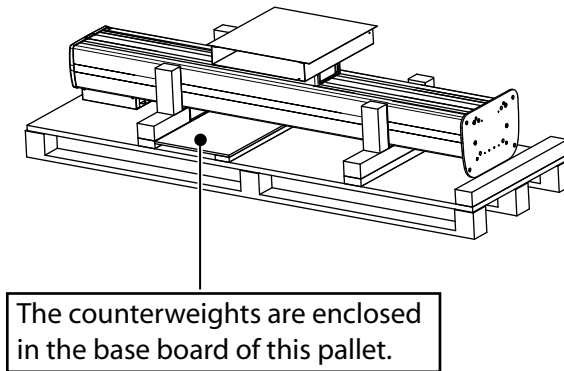

Fig. 5-55 Lifting Wallstand off the pallet
5. With help from at least two persons, lift the Wallstand, as indicated in the figure below. Lift the Wallstand off the pallet, see Fig. 5-55 *Lifting Wallstand off the pallet.*